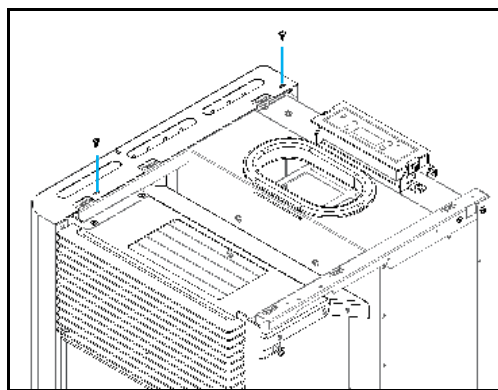

Figure 95 – Attaching the side casings the top of the unit
e) Repeat the process described in b) and c) in this manual for the other casing and secure the side parts using four screws **B** (DIN 7981 4,2x9,5) from the kit, two on each side, as shown in Figure 95.